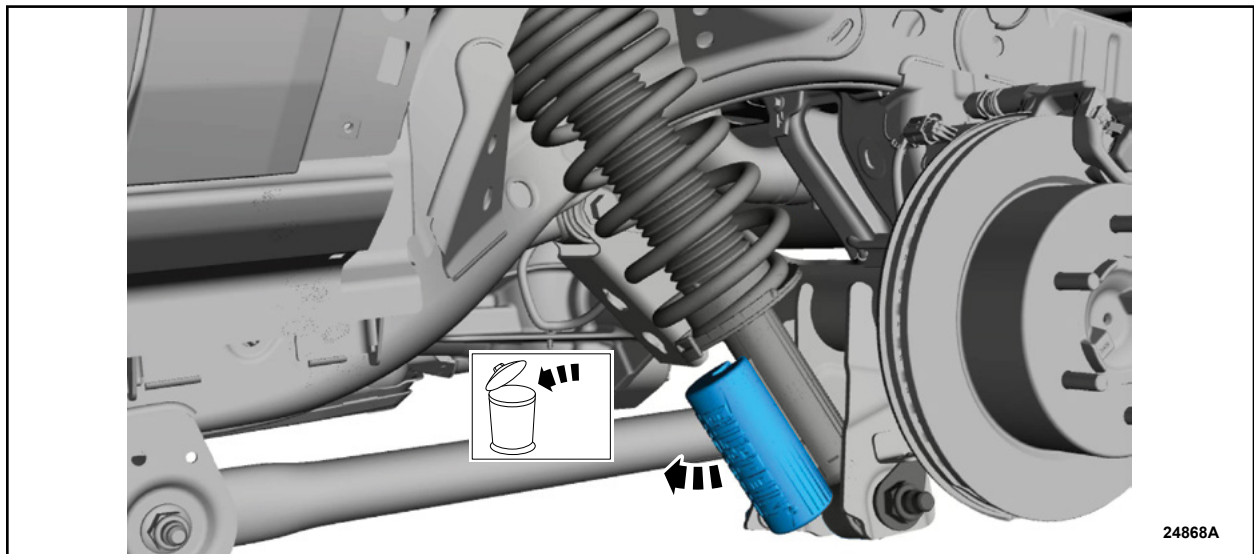

FIGURE 3
4. On both sides, remove and discard the rear shock absorber stone shields. See Figure 3.